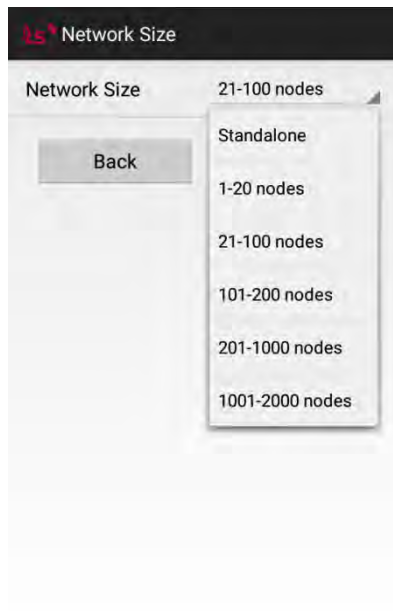

Figure 6: Network size configuration.
- 1) **Network size.** The size of the network (Figure 6) defines the slot time for each of the dataloggers to send the data to the gateway in order to avoid data collision (see section 4.1. of this user guide).